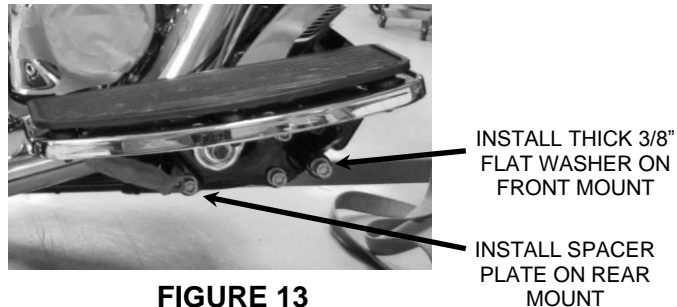

FIGURE 13
28. Insert the supplied floorboard spacer plate between the rear floorboard mount and the frame, then align the dowel pin and reinstall the socket head bolt. Tighten to factory specifications. See **FIGURE 13**.
29. Remove the socket head bolt from the right front floorboard mount. Place the supplied thick washer between the front floorboard mount and the frame. Reinstall and tighten the socket head bolt to factory specifications. See **FIGURE 13**.